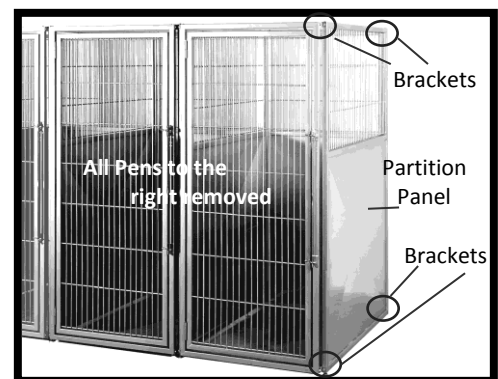

Figure 65: Brackets Holding the Partition Panel to the Pen System
2. With a 1/2in. wrench, remove the cap screws that hold the partition panel to the brackets on the pen system (Figure 65). **Note:** If the pen system is back-mounted to a facility wall, disconnect the panel from the brackets on the wall.